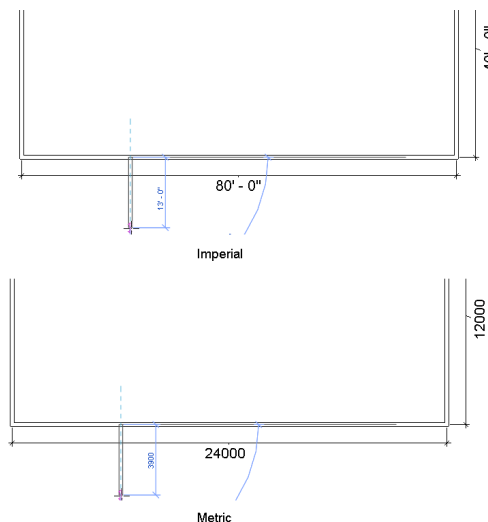

Figure 3-61 The other exterior wall segment created outside the Office Building
3. Draw **13'0"** line in Imperial system or **3900 mm** line in Metric system from that point in downward direction, as shown in Figure 3-61.